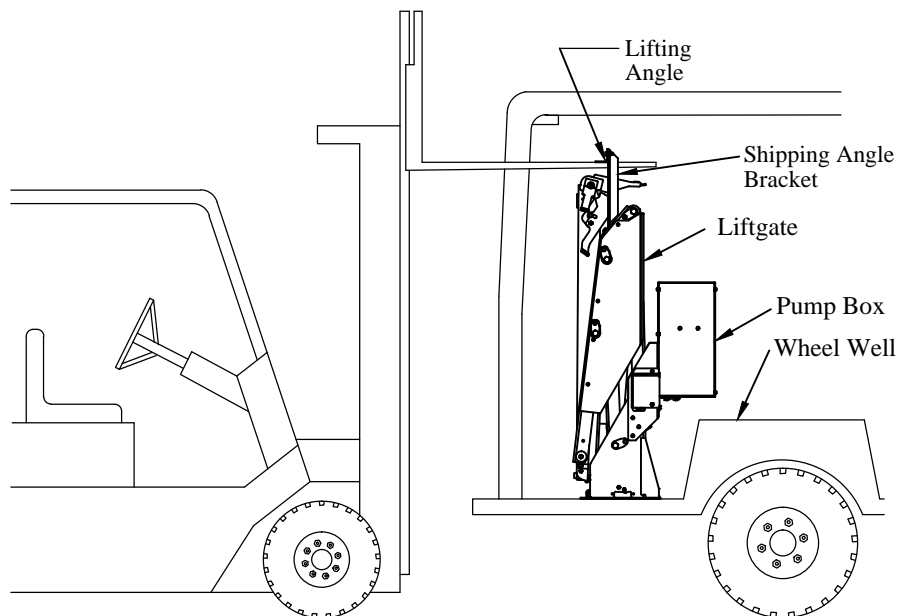

Figure 11: Lifting angle.
1. **Lift** the liftgate by the lifting angle with a fork truck (Figure 11).